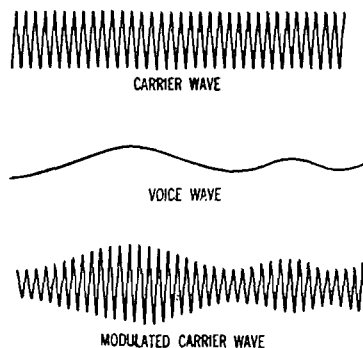

Fig. 40.7. Illustrating modulation.
*The Broadcasting Station.* In the studio the sound energy is received by a microphone similar to the one used in the public-address system. The resulting variable current goes to the control room, where it is amplified and combined with the current which is used to operate the oscillator — the device which sends out the electromagnetic waves. (See Sec. 202.) In Figure 40.7 the high-frequency (500 to 1600 kilocycles per second for commercial broadcasting) carrier wave is shown, then the voice wave, and finally the modulated
carrier wave which results from the combination of the carrier wave and the voice wave. When the station is on the air, the carrier wave is sent out continuously from the antenna. When sound energy generates current in the microphone circuit, a modulated carrier wave is sent out. The type of modulation shown in Figure 40.7 is known as *amplitude modulation* (AM) and is the type of modulation which is used extensively at the present time in commercial broadcasting. Another type of modulation is known as *frequency modulation* (FM). Here the voice current changes the frequency rather than the amplitude of the carrier wave.